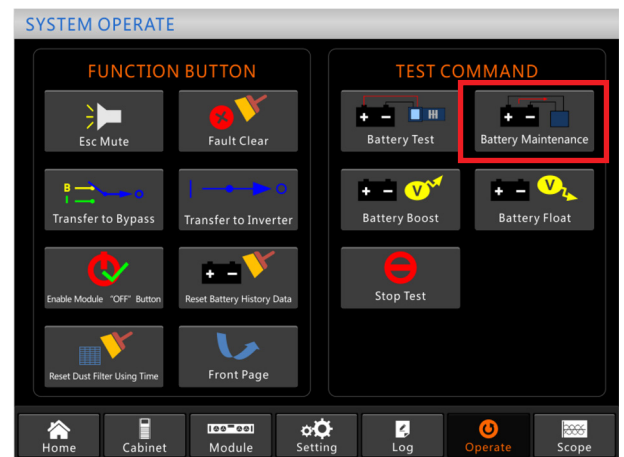

Fig. 63. Battery maintenance.
1. **Manual discharge.** Enter the Operation menu, as shown in Fig. 63, by clicking on the 'Battery Maintenance' icon  the system transfers to battery mode to start the discharge, stopping when the batteries reach 20% of capacity or there is an undervoltage. The user can stop the discharge by clicking on the 'Stop Test' icon .